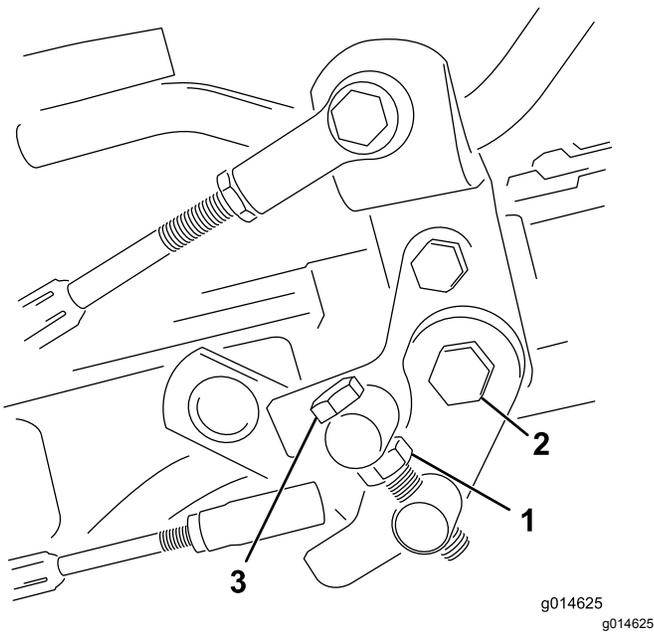

Figure 33
1. Loosen the jam nut on the trunion bolt (Figure 33).
4. Tighten the jam nut on the trunnion bolt and the nut on the pedal pivot to lock the adjustment (Figure 33). Check the adjustment and adjust as required.